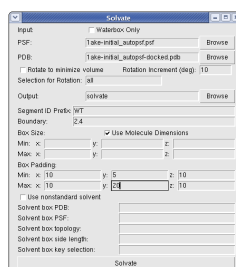

Figure 8: The VMD Solvate window.
- 3 Embed this structure into a water box using the `solvate` plugin. In the VMD Main Window, choose **Extensions** → **Modeling** → **Add Solvation Box** (Fig. 8). Set the box padding to 20 Å for maximum y, 5 Å for minimum y, and 10 Å for the remainder dimensions, as shown in the figure and click on **Solvate**. We would like the target map to fall completely within the water box, which is why we chose a larger padding in one of the dimensions. VMD will generate the files `solvate.psf` and `solvate.pdb`, which will be automatically loaded upon completion of this step. Load the target map (from the previous section) to visually ensure that the density falls completely within the water box (Fig. 9).